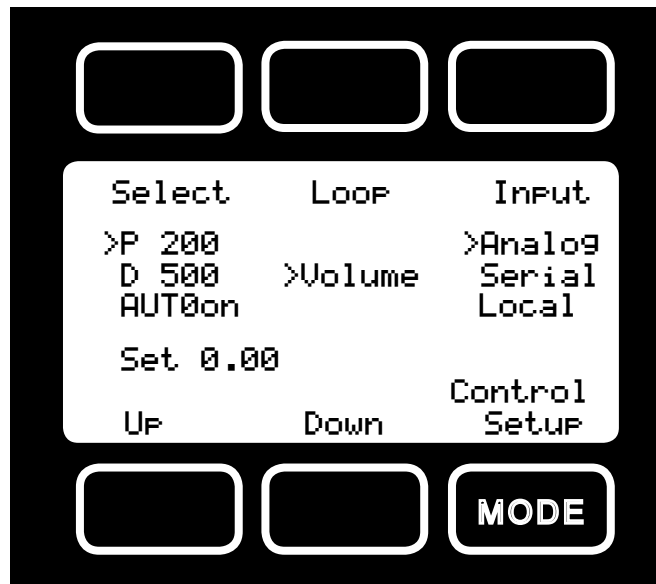

Figure 14. LC Series Control Setup Display
**Input** – LC Series Flow Controllers normally ship defaulted to analog control as indicated in Figure 14 above. To change how the set-point will be conveyed to the controller push the button in the upper right hand corner just above the dynamic label “Input” until the arrow is directly in front of the desired option. The controller will ignore any set-point except that of the selected input and it will remember which input is selected even if the power is disconnected.